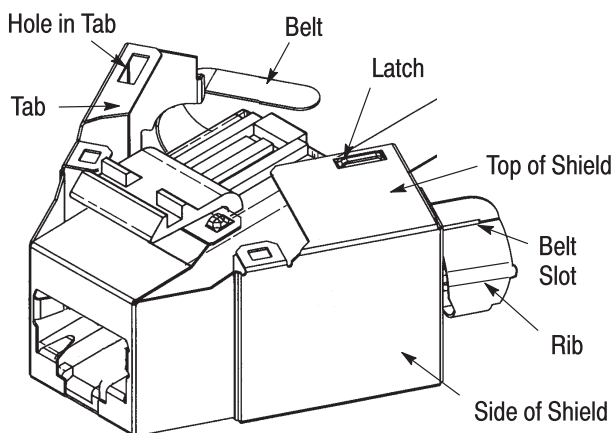

Figure 4
8. Install shield around jack as shown in Figure 4. Pinch top and bottom of shield and simultaneously pinch sides of shield. While closing shield, start belts into slots. The top and bottom of the shield should be on the inside of the tabs on the left and right sides of the shield. Continue closing until the holes in the tabs snap over the latches.